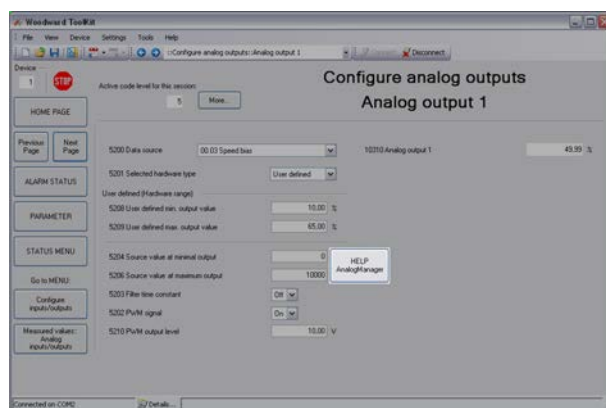

Fig. 245: Setup of external AOs
1. Configure the external analog outputs using the ToolKit screen shown in (Fig. 245).